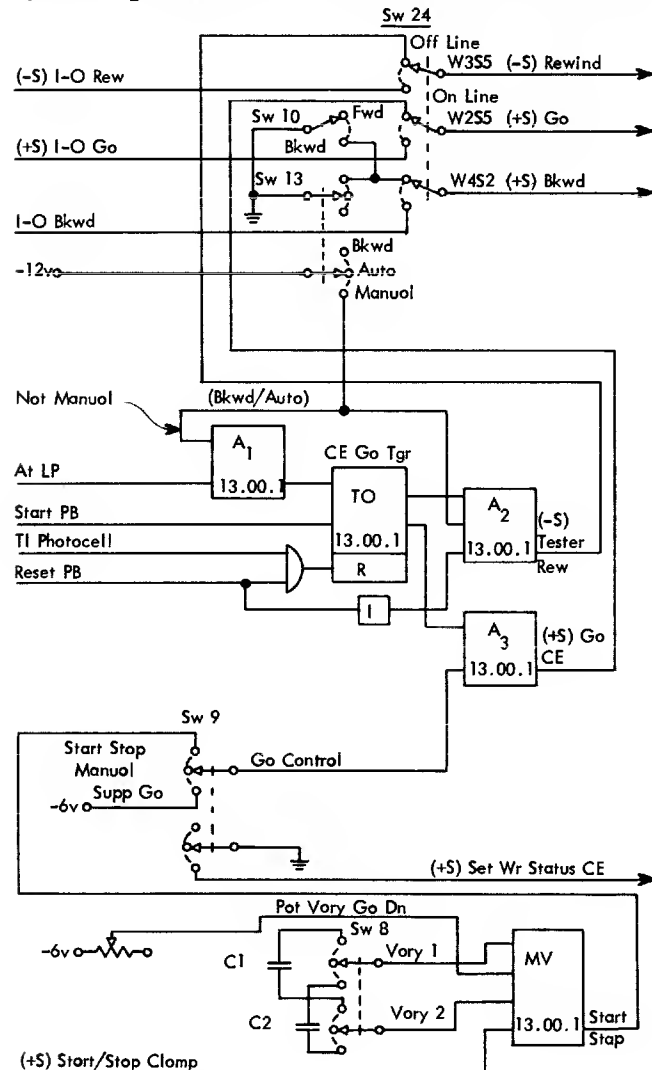

Figure 6. CE Tester Control
**Manual-Auto-Backward (Sw 13):** See Figure 6.
**MANUAL**—In this position the multivibrator is removed from the circuit and “go control” is allowed to float into A3 (Figure 6). GO is now under control of the start and reset keys.